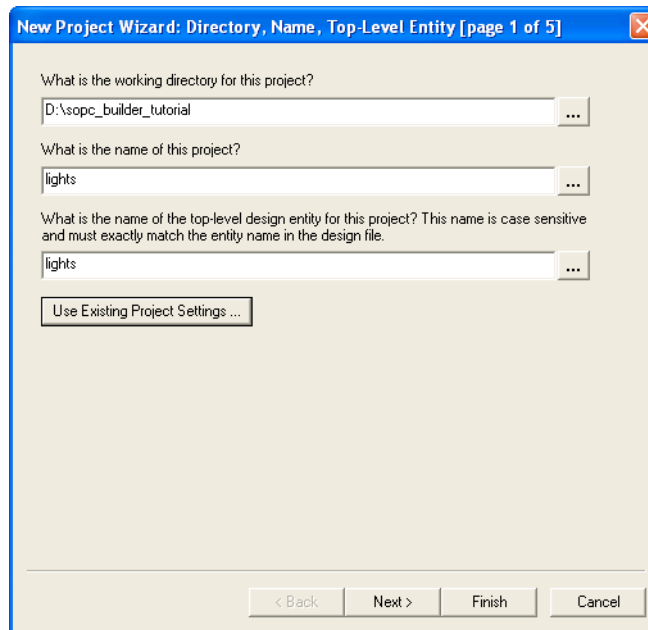

Figure 3. Create a new project.
1. Create a new Quartus II project for your system. As shown in Figure 3, we stored our project in a directory called *sopc_builder_tutorial*, and we assigned the name *lights* to both the project and its top-level design entity. You can choose a different directory or project name, but be aware that the SOPC Builder software does not permit the use of spaces in file names. For example, an attempt to use a directory name *sopc_builder tutorial* would lead to an error. In your project, choose the EP2C35F672C6 chip as the target device, because this is the FPGA on the DE2 board.
Figure 17 shows a top-level VHDL entity that instantiates the Nios II system. This entity is named *lights*, because this is the name we specified in Figure 3 for the top-level design entity in our Quartus II project. Note that the input and output ports of the entity use the pin names for the 50-MHz clock, *CLOCK_50*, pushbutton switches, *KEY*, toggle switches, *SW*, and green LEDs, *LEDG*, that are specified in the DE2 User Manual. Type this code into a file called *lights.vhd*. Add this file and all the *.vhd files produced by the SOPC Builder to your Quartus II project. Also, add the necessary pin assignments on the DE2 board to your project. The procedure for making pin assignments is described in the tutorial *Quartus II Introduction Using VHDL Design*. Note that an easy way of making the pin assignments when we use the same pin names as in the DE2 User Manual is to import the assignments given in the file called *DE2_pin_assignments.csv* in the directory *DE2_tutorials\design_files*, which is included on the CD-ROM that accompanies the DE2 board and can also be found on Altera's DE2 web pages.